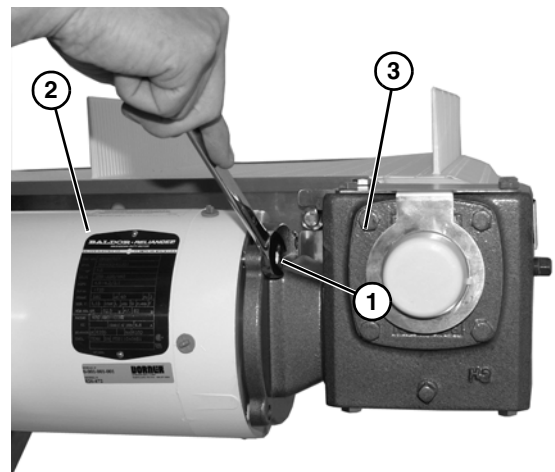

Figure 17
5. Remove four bolts (Figure 17, item 1) securing motor (Figure 17, item 2) to gear reducer (Figure 17, item 3).